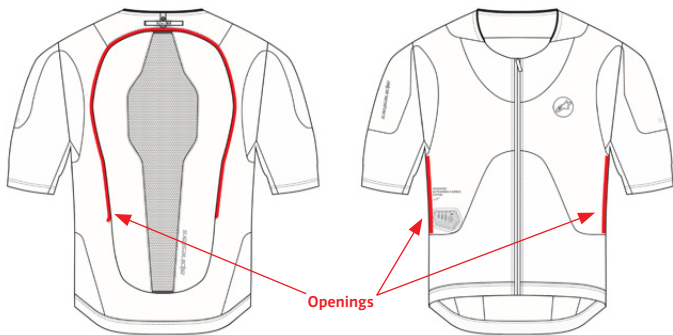

Figure 24: Base Layer (1) Openings
2. **Detach the Back Protector (4)** – Detach the Velcro on the upper part of the Back Protector (4) and separate the Back Protector (4) from the Base Layer (1).
3. **Detach the Airbag (11)** – Through the rear opening, proceed to detach all 12 of the connection loops that connect the Airbag (11) to the Base Layer (1) in the rear part of the System and in the sleeves area. To access the connection loops on the front part of the System use the two openings present on the sides of the inside of the garment, the openings are located on the sides of the System directly underneath the armpit area, as shown in Figure 24. Proceed by removing the Airbag (11) entirely from the Base Layer (1).